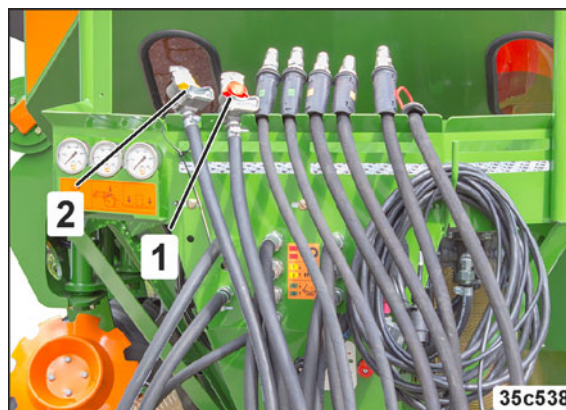

Fig. 131
- a supply line (Fig. 131/1) with coupling head (red).
- a brake line (Fig. 131/2) with coupling head (yellow).